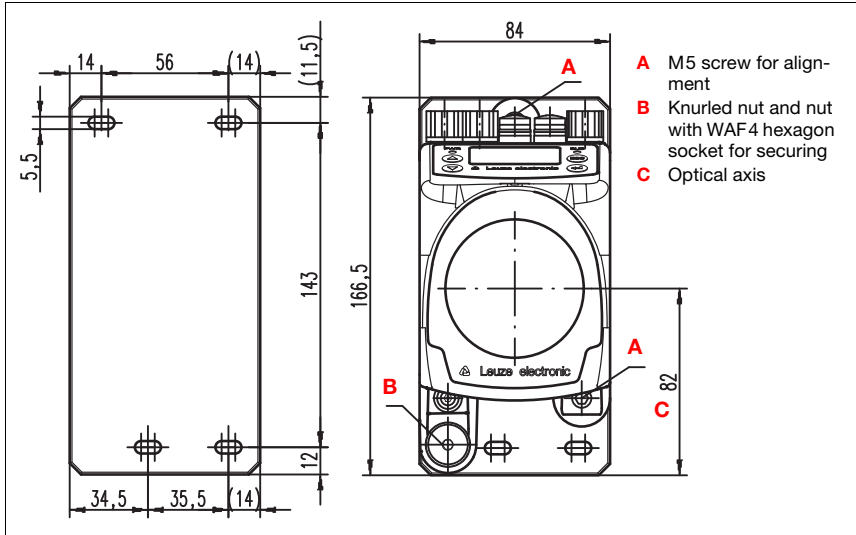

Figure 5.2: Mounting the device
The laser light spot has to be aligned so that it always hits the center of the opposing reflector, both at close range as well as at the maximum measurement distance. **To align, use the two M5 Allen screws** ("A" in figure 5.2). When aligning please ensure that the knurled nut and the lock nut ("B" in figure 5.2) are opened wide.
*To prevent the laser measurement system from moving out of alignment during continuous operation, subsequently hand-tighten the knurled nut and counterlock with the nut with WAF4 hexagon socket ("B" in figure 5.2). Knurled nut and nut must not be tightened until alignment has been completed.*